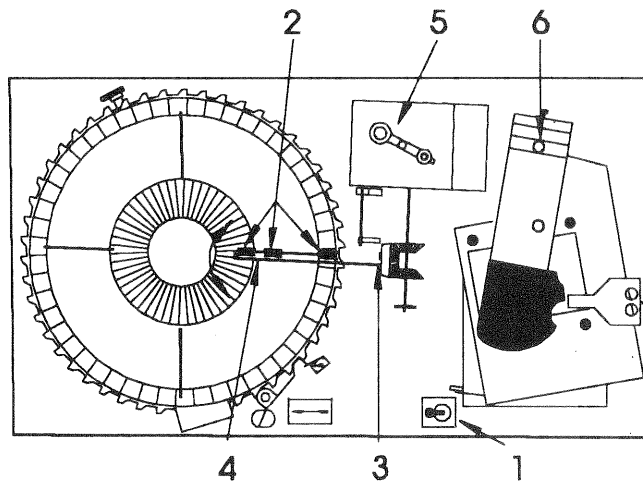

Fig. 27
For easier adjustment it is recommended to go into the service program, push button 7 and interrupt the supply to the griper motor in the desired position by using the gear motor switch on the chassis (Fig. 27, Pos. 1). At general adjustment procedures a programming wire link can be inserted in plug blue from pin 1 (green wire) to pin 2 (blue wire), repeatedly pressing button 7 is not applicable any more.
- Insert four CD's in a 90° position around the carrier. Turn carrier and stop until a CD is under the griper arm. The CD should be in line with the grooves (Fig. 27, Pos. 2) of the griper arm rollers and the disc clamp.
- Adjustment can be carried out by loosening the both hex screws at the middle cone wheel (Fig. 27, Pos. 3) or by slightly bending the end of the griper arm (Fig. 27, Pos. 4). Control the adjustment with the other CDs in the carrier. If there is a difference adjust to average.
- The tool on the top of the gear box can be used for adjustment (Fig. 27, Pos. 5).